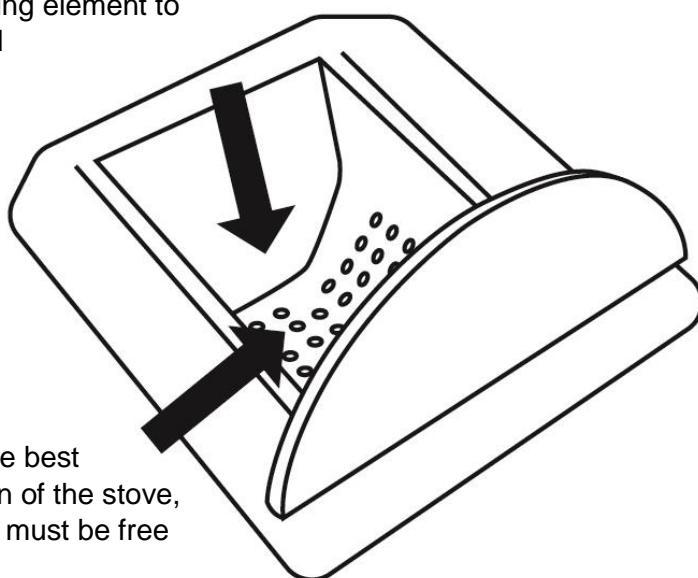

Figure 16
- **FIREBOX (box-shaped)** - it burns the pellets made out of wood mass. See Figure 16. It is recommended that the firebox be vacuum cleaned after each use, **every day** (when the stove is cool). Every day, it is recommended to take out the firebox and to make sure that there is no residual ash at the bottom of it, as well as unburned pellets that were collected at the bottom of the firebox. Then put the firebox back and set it firmly into place to ensure the safe running of the stove. The firebox must sit straight - horizontal, it must not be tilted! The sealing tape from the underside of the firebox must be in its place, and must not be damaged.